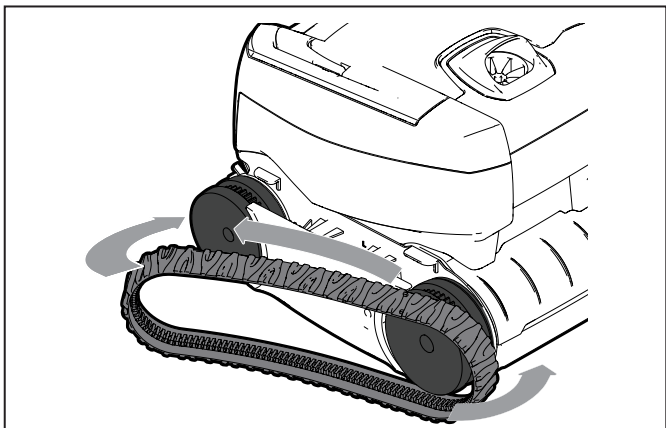

Figure 19. Stretch Track Around Wheels
- To install a new track, place the inside rib of the track into the groove in the first wheel (Figure 19).
- Stretch the track around the second wheel, (see Figure 19). Push and position the rib of the track so that the track is seated properly in the groove of the wheel.